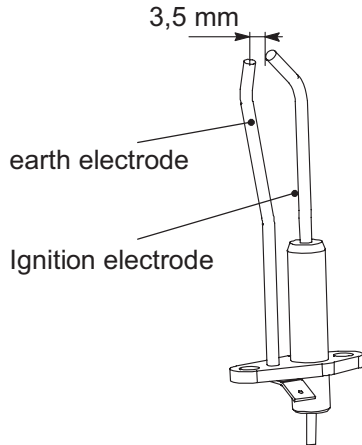
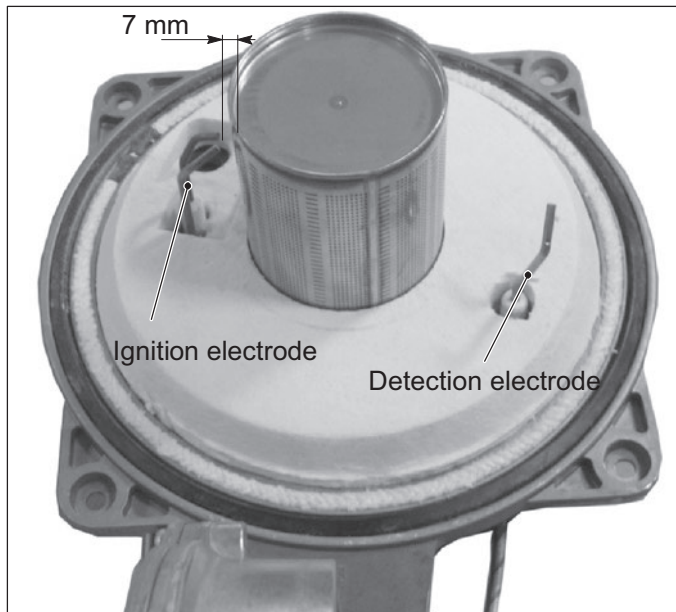

Figure 18.9
Figure 18.10
- 2 Check for the correct distance between the metallic edges of the ignition electrode (see Figure 18.9 - Figure 18.10).
The detection electrode in Figure 18.10 also functions as a sensor for the correct drainage of the condensate.